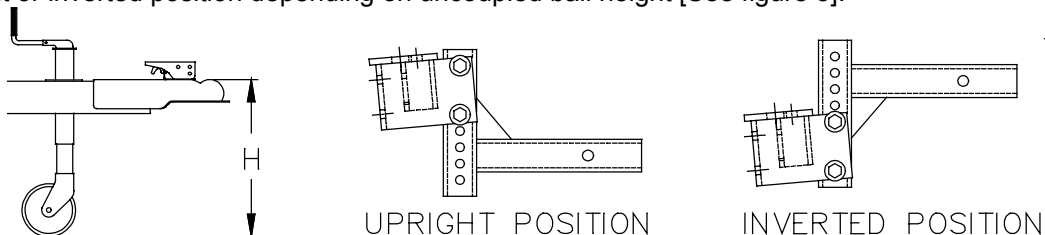

Figure 5
1. Insert shank into receiver and install pin and clip [See figure 4]. Shank (1) may be inserted in the upright or inverted position depending on uncoupled ball height [See figure 5].